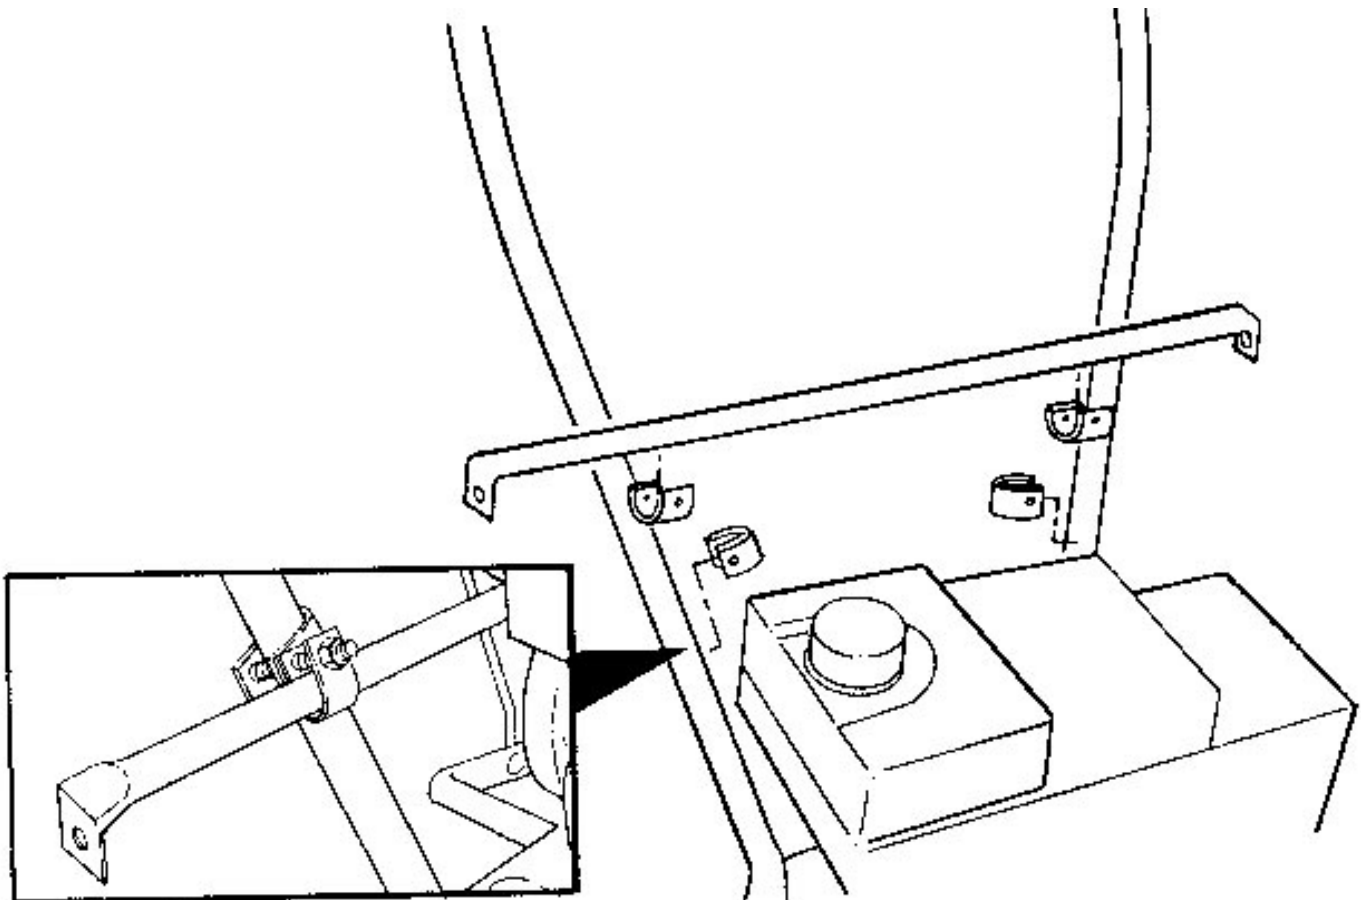

FIGURE 4
STEP 3; SEE FIGURE 4:
See FIGURE 4, for proper orientation.
See detail FIGURE 4 .